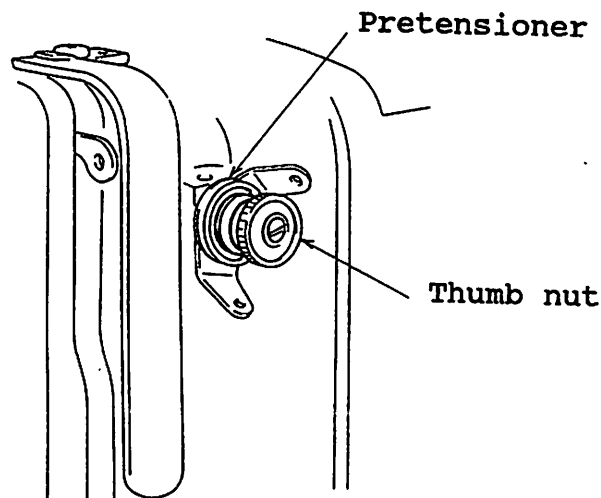

Fig. 9.29
- (4) The trimmed needle thread tail length can be adjusted by turning the pretensioner thumb nut shown in Fig. 9.29. This length is shortened when the nut is turned clockwise.